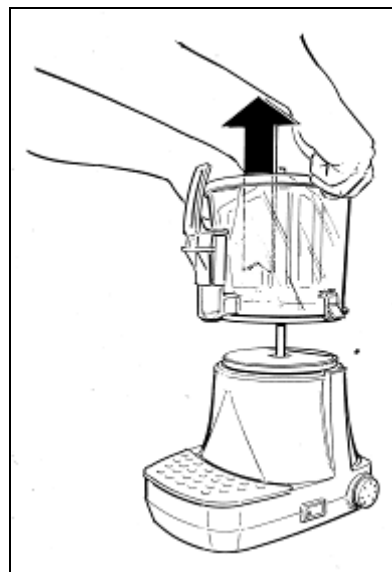
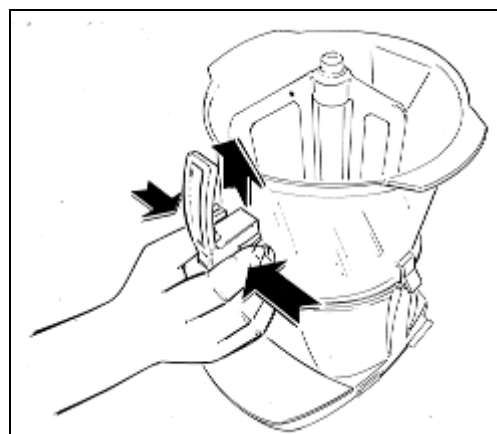

Fig. 1
Fig. 2
The machine has to be placed on a sturdy, horizontal surface making sure it is well ventilated by leaving a gap of 20 cm around it and do not install it near heat sources (fig.1); **w**e recommend you to maintain a room temperature between 24 and 30°C (between 75°F and 86°F).
- Using two container holders, in order to avoid burns hands, grasp container (A) and lift it
upwards. The container and mixer (E) will be automatically released from their seat (see fig. 1).
- Cool the container (A) (by dipping it in cold water, for example).
- Simultaneously press the two securing tabs and lift the tap to extract it from its seat (see fig.2).